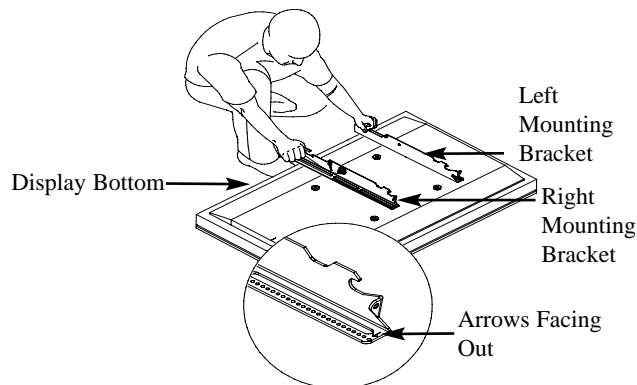

Figure 3
3. Lay the left and right mounting brackets over the mounting points, with the stamped arrows facing out (Figure 3).